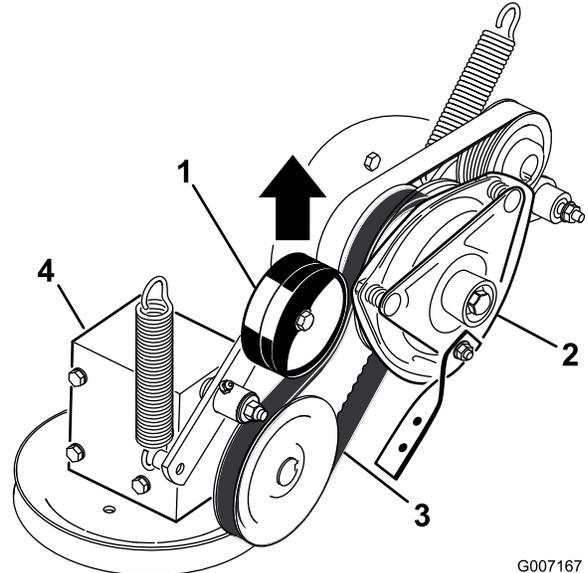

Figure 80
5. Pull up on the spring-loaded idler pulley for the PTO-drive belt and remove the belt from the clutch pulley (Figure 80).
17. Pull up on the spring-loaded idler for the PTO-drive belt and install it onto the clutch pulley (Figure 80).